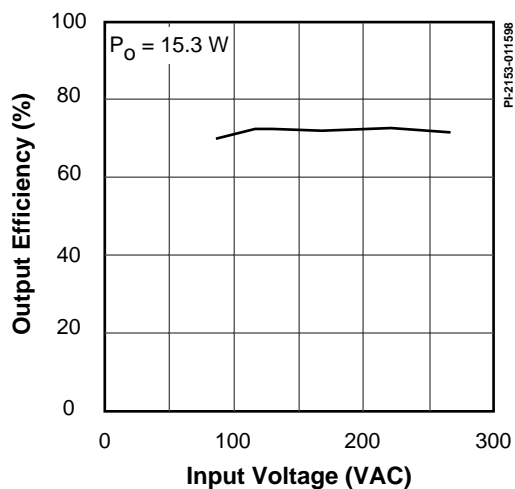

Figure 8. Efficiency vs. Input Voltage, 15.3 W Output
**Efficiency (Line Dependent)** – Efficiency is the ratio of the output power to the input power. The curves in Figures 8 and 9 show how the efficiency changes with input voltage.